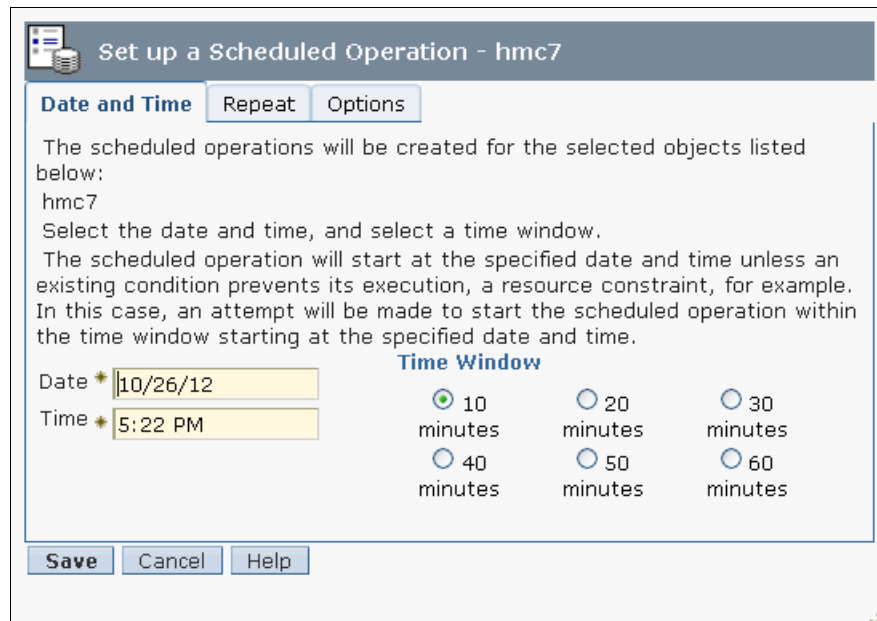

Figure 6-47 Set up a Scheduled Operation window
3. On the Date and Time tab, select the date and time, and time window for the first backup, as shown in Figure 6-47. The scheduled operation starts at that time window.